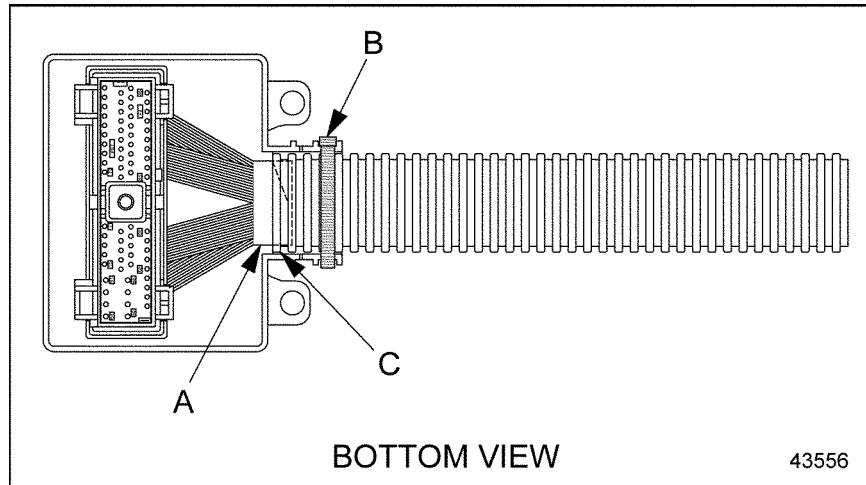

Figure 16-32 Bottom View of Shroud, ECM/ECU Connector and Conduit
1. Use heavy electrical tape where wires exit conduit into the shroud (see Figure 16-32, A).
2. Use a tie strap to secure the shroud to the conduit and connector (see Figure 16-32, B).
3. Check that the conduit extends past the innermost ring on the shroud inlet. The conduit **must** extend this far (see Figure 16-32, C).